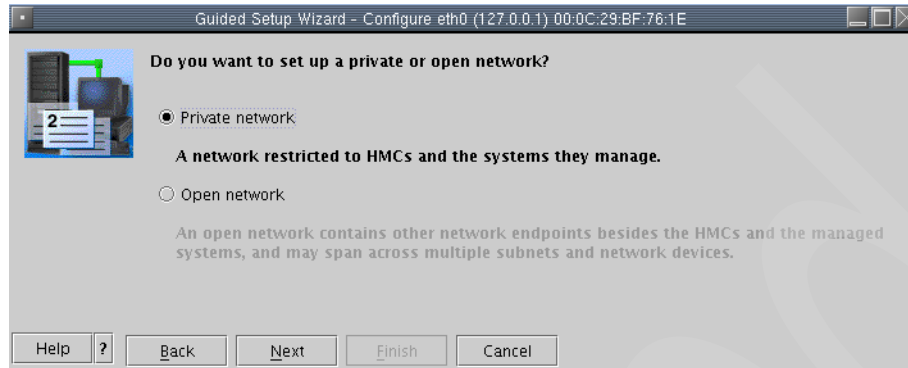

Figure 4-16 Guided Setup wizard - Configure eth0
16. The Guided Setup Wizard - Configure eth0 panel is now shown (Figure 4-16). As previously mentioned, we are setting the first LAN adapter to be our link to our private network of HMCs and managed systems.